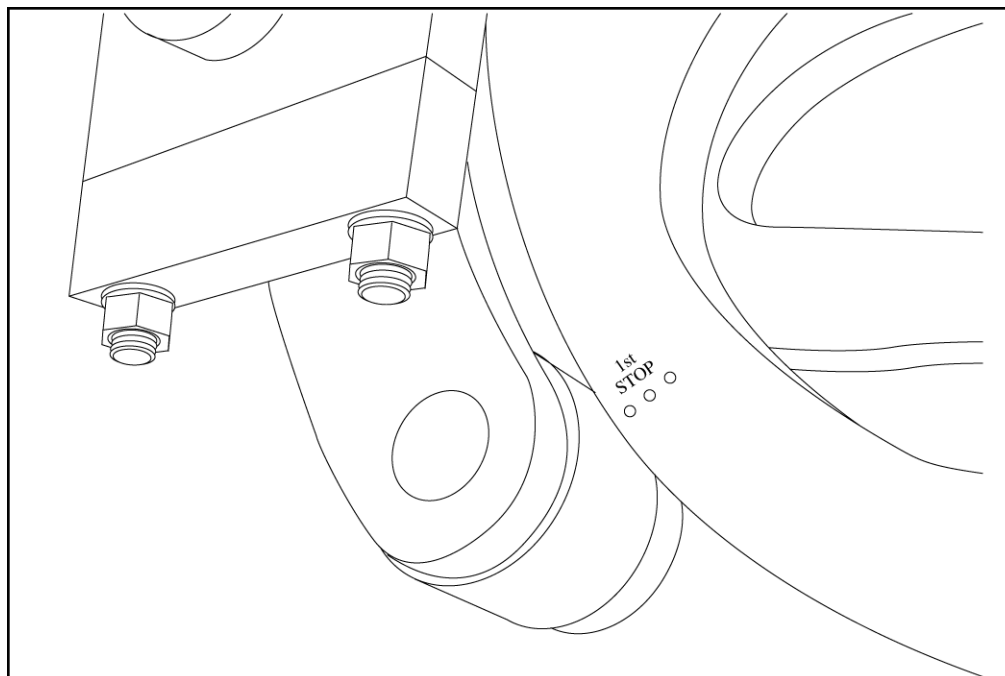

Figure 4.3 "FIRST STOP" (R.H. SIDE OF MACHINE)
- 4.1.2 Run machine to "first stop" (see figure 4.3)